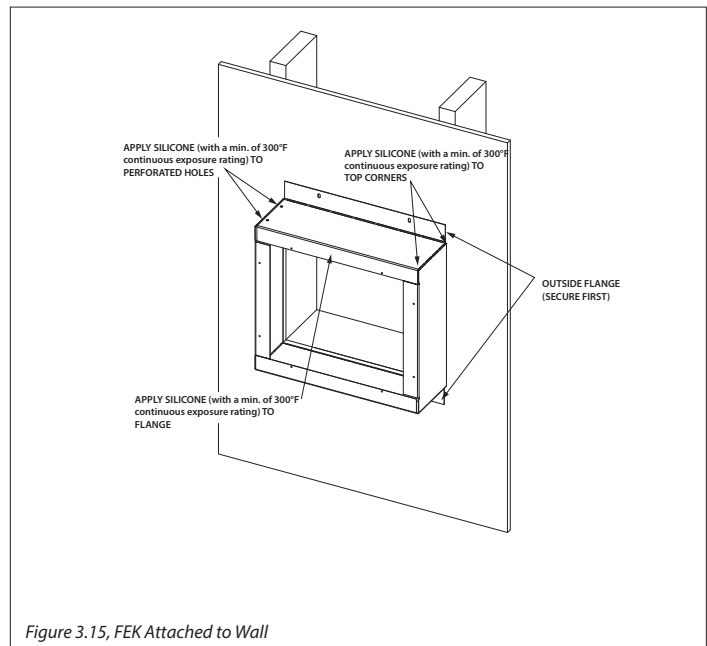

Figure 3.15, FEK Attached to Wall
5. Apply a bead of silicone along the backside of the entire metal flange of #KPV. Align with #KPV-FEK as shown in Figure 3.15. Ensure cap is level and square, then secure #KPV to #KPV-FEK with (8) screws.